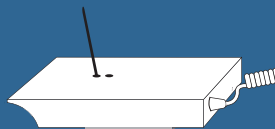

Fig. 1
- ➔ Start the transmitter in the same room as the display. On the base of the black transmitter, pull the clear plastic tab out. This can be discarded. The transmitter will start immediately. See figure 1.
In the unlikely event that your display has alternate readings, take your transmitter close to your display unit. Using a small pen or similar, press the button as shown in Fig 1. This will provide a new code. To re-pair your devices, simply hold the DOWN button for 3 seconds and release. Follow the normal set-up procedure to re-programme your monitor.